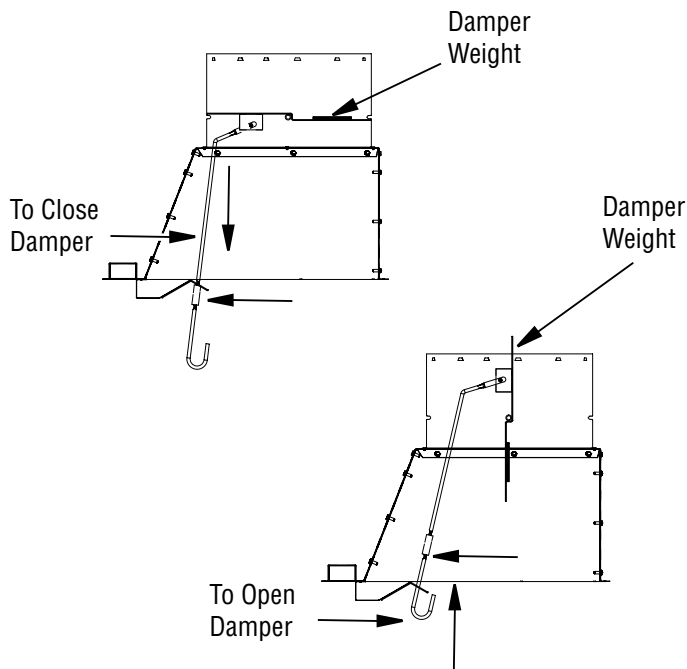

Figure 42 - Operating Damper Handle
1. To properly start a fire in the fireplace, first check the operation of the flue damper (see "DAMPER CONTROL" and Figure 42, page 21).
The damper handle, which opens and closes the damper blade, is located in the upper front face of the fireplace. Pushing the handle forward and up through the keyway slot will free damper blade to automatically open. Pushing the handle forward and down will lock damper blade closed (see Figure 42). Damper must be locked in the full open position before operating fireplace (see Figure 42).